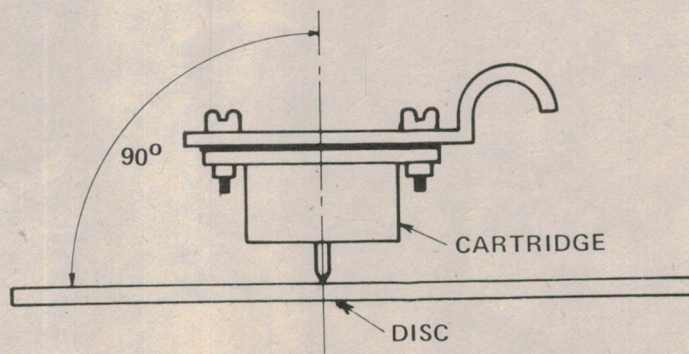

Fig. 1. The stylus must be perfectly vertical in the groove.
STEP 1: Refer Fig. 1. The stylus must be perfectly vertical in the groove as viewed from the front. Any slightly "off vertical" alignment must be corrected. A unipivot arm can pose problems in ensuring this adjustment is stable and accurate. If it is not, no other changes will optimise the system.